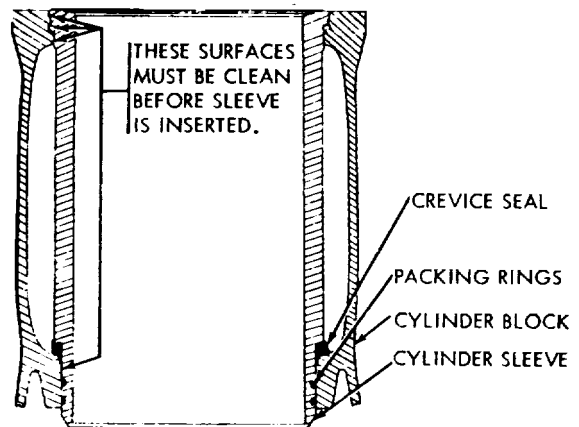

Figure 3-4. Cylinder sleeve sells installation
(1) Install crevice seal ring on machined surface above packing ring grooves, as shown in figure 3-4, with green stripe color code showing.
(2) Lubricate packing rings with light coating of OE-10 lubricant.
(3) Roll each ring into grooves (fig. 3-4) and straighten using ring mold mark as a guide.